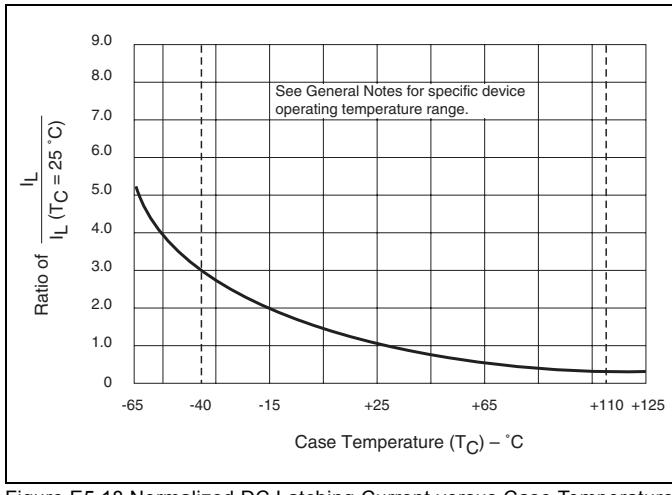

Figure E5.18 Normalized DC Latching Current versus Case Temperature
- (14) $I_{GT} = 500 \mu\text{A}$ maximum at $T_C = -40 \text{ }^\circ\text{C}$ for T106 devices
- (15) $I_H = 10 \text{ mA}$ maximum at $T_C = -65 \text{ }^\circ\text{C}$ for 2N5064 Series and 2N6565 Series devices
- (16) $I_H = 6 \text{ mA}$ maximum at $T_C = -40 \text{ }^\circ\text{C}$ for T106 devices
- (17) Pulse Width $\leq 10 \mu\text{s}$
- (18) $I_{GT} = 350 \mu\text{A}$ maximum at $T_C = -65 \text{ }^\circ\text{C}$ for 2N5064 Series and 2N6565 Series devices
- (19) Latching current can be higher than 20 mA for higher I_{GT} types. Also, latching current can be much higher at $-40 \text{ }^\circ\text{C}$. See Figure E5.18.
- (20) T_C or $T_L = T_J$ for test conditions in off state
- (21) I_{DRM} and $I_{RRM} = 50 \mu\text{A}$ for 2N5064 and $100 \mu\text{A}$ for 2N6565 at $125 \text{ }^\circ\text{C}$
- (22) TO-92 devices specified at $-65 \text{ }^\circ\text{C}$ instead of $-40 \text{ }^\circ\text{C}$
- (23) $T_C = 110 \text{ }^\circ\text{C}$